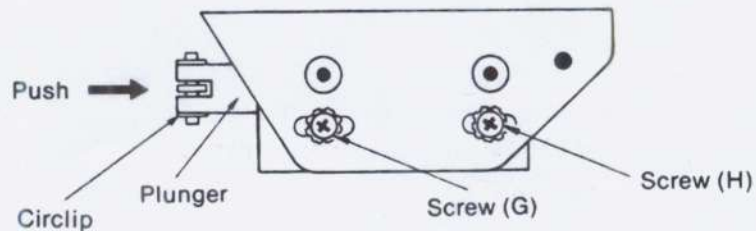

Fig. 19
- (3) With the plunger pushed all the way into the solenoid, move the plunger in the direction shown by the arrow in figure 19.
- (4) When it is moved, the pressure rollers will move closer to the capstan.
- (5) Move the plunger in the direction of the arrow to a point about 1 mm beyond where the pressure rollers contact the capstan, and then secure the solenoid.